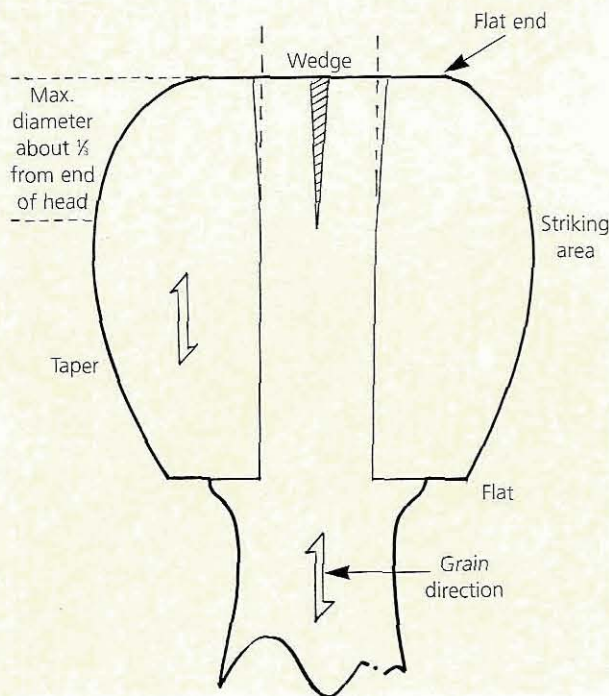

Fig 1.13 Some features of a mallet head
- The handle should be firmly wedged into the head of the mallet. A very important point is that the hole for the handle needs to taper out a little at the far end so that the wedged spigot of the handle becomes locked and immovable (Fig 1.13). Indeed, you have to drill the handle out should you ever need to replace it. If the hole is not tapered, the head can loosen, even despite the wedge – although this is less likely with smaller mallets, which are used more delicately. A flat top to the mallet head permits it to sit upright on the bench and not roll around.